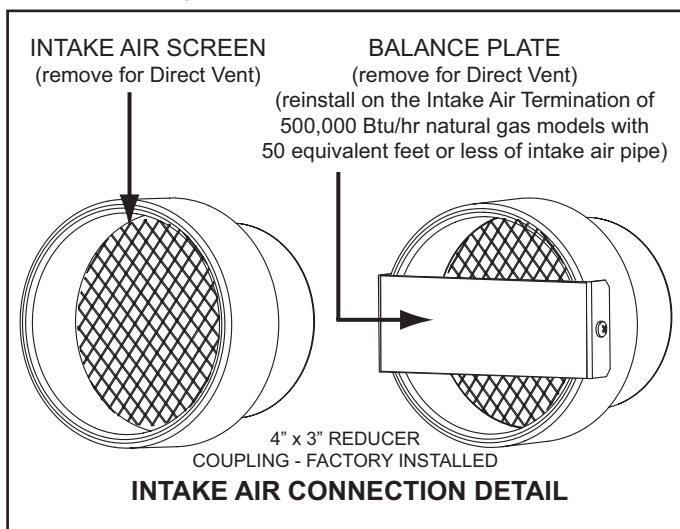

Figure 16
- Ensure the Balance Plate and Intake Air Screen on the Intake Air Connection to the water heater are both removed before connecting the intake air pipe to the water heater. See Figure 16.
- BTH 500 NATURAL GAS MODELS ONLY: install the balance plate (removed in the previous step) on the Intake Air Termination if the installed equivalent length of the intake air pipe will be 50 feet or less. Discard the balance plate for all other models or if the installed equivalent length of the intake air pipe will be more than 50 feet. See Figure 16.